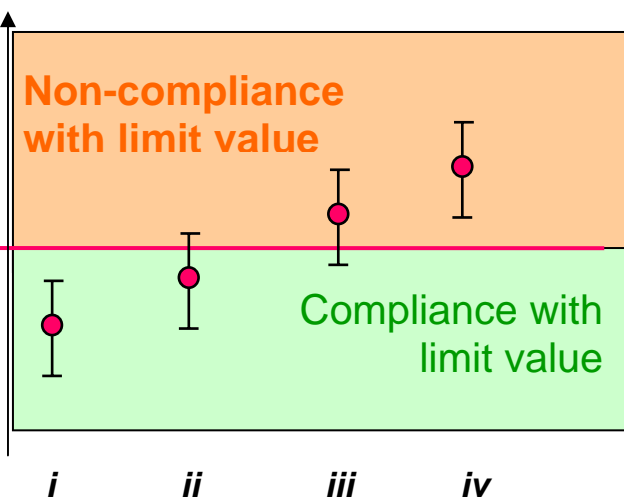

Fig 1 Test results with expanded uncertainty in relation to an upper limit
When test results are used to assess compliance i.e. to decide whether specifications or regulations are met, the measurement uncertainty of the test results has to be taken into account. Assessment of compliance for cases *i* and *iv* in Figure 1 is clear – the measurement results including the uncertainty interval are clearly below or above the limit value. For cases *ii* and *iii* the decision is not clear since the uncertainty interval overlaps the limit value. The Eurachem/CITAC guide [1] gives guidance on cases *ii* and *iii*.
#### Example 1 – case *ii* in Figure 1 with an upper limit and a decision rule focusing on correct acceptance
**Example 2 – case iii in Figure 1 - an upper limit and a decision rule focusing on correct rejection**
**Example 3 – case ii in Figure 1 - with a lower and an upper limit and a decision rule focusing on correct acceptance**